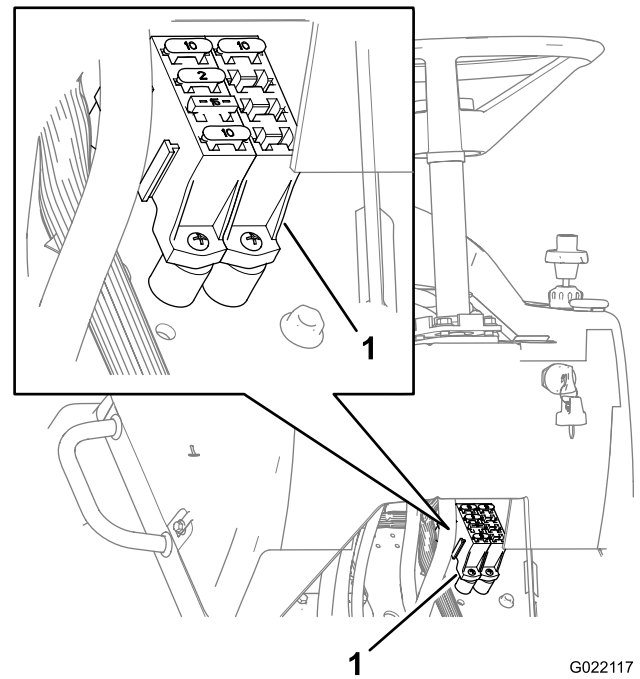

Figure 61
3. Replace the open (blown) fuse in the fuse block with a new fuse that has an equivalent amperage value (Figure 61).